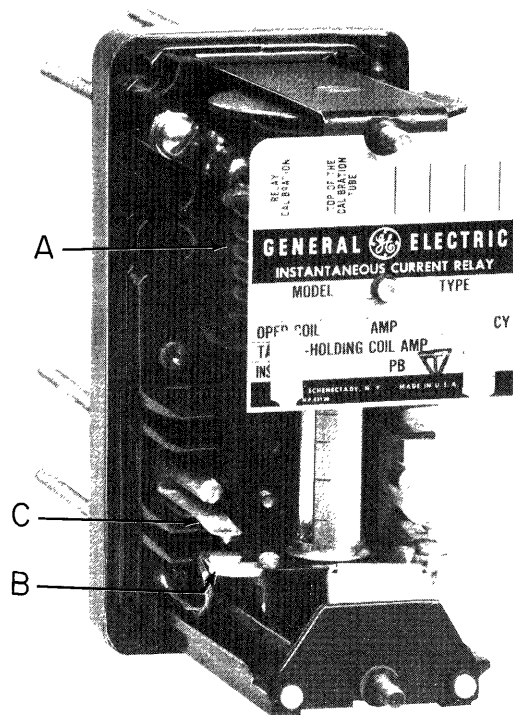

Fig. 3. Type PJC relay with cover removed
- A. Figures 3, 4 and 5 on page 2 indicate that the reference letter for the Operating Coil is "A".